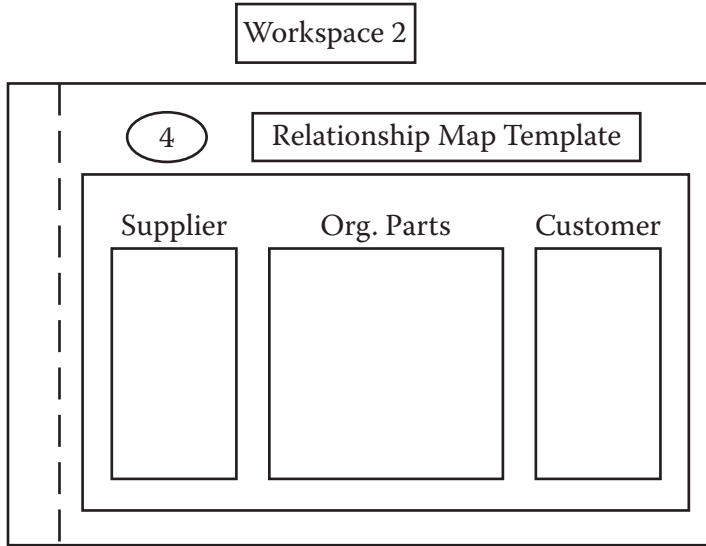

Figure 4.9 Relationship map template in workspace 1.
4. Create a “basic relationship map” template and place it in “workspace 2” (Figure 4.9).